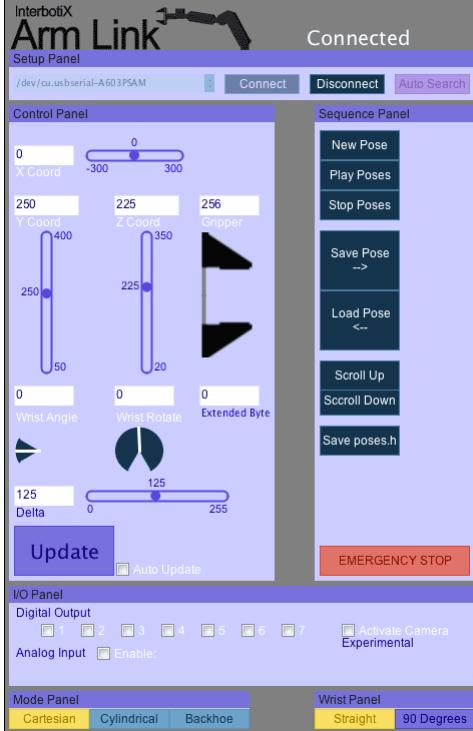

Figure 2.8: Arm Link Application Panel
- 5. On a successful connection, the arm will move from its 'sleep' position to a 'home' position. This may take several seconds. Once the arm has moved to its home position and is ready for commands, the various panels will appear as shown in Figure 2.8. **Once the arm is connected to the software, don't try to move it by hand as each of the motors will exert torque.**